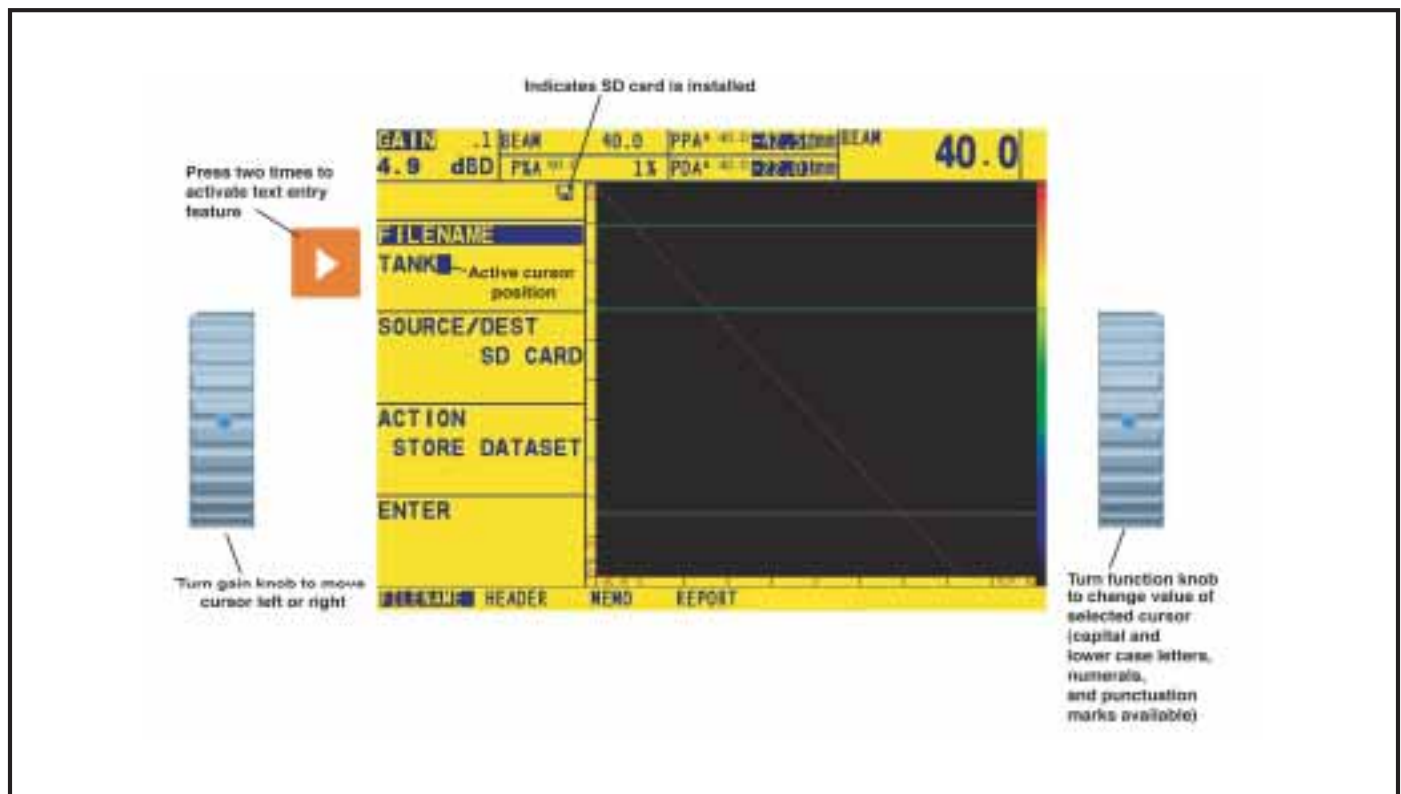

Figure 62: The Text-Entry display allows quick entering or editing of file names and other alphanumeric labels.
3. Press  twice next to FILENAME. Use the two knobs and the instrument's text-entry feature to input the data set's name (as shown in Figure 62 on page 139). Note that an “underscore” character is not available and can therefore *not* be included in data set file names.
3. Note that the top of the display screen contains a five-line memo. The first character of the memo is now highlighted. Use the two knobs and the instrument's text-entry feature to input or edit the memo's contents (as shown in Figure 62 on page 139).
3. Note that the top of the display screen contains a nine-entry report header. The first character of the header is now highlighted. Use the two knobs and the instrument's text-entry feature to input or edit the header's contents (as shown in Figure 62 on page 139).